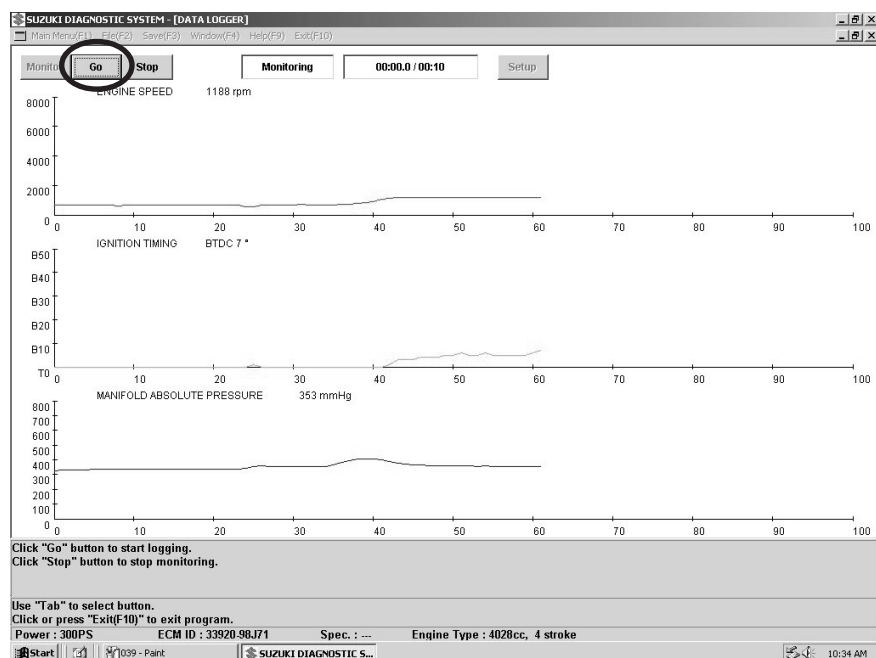

Fig.70
4. To start data logging, click the “Go” button. (Fig.70)